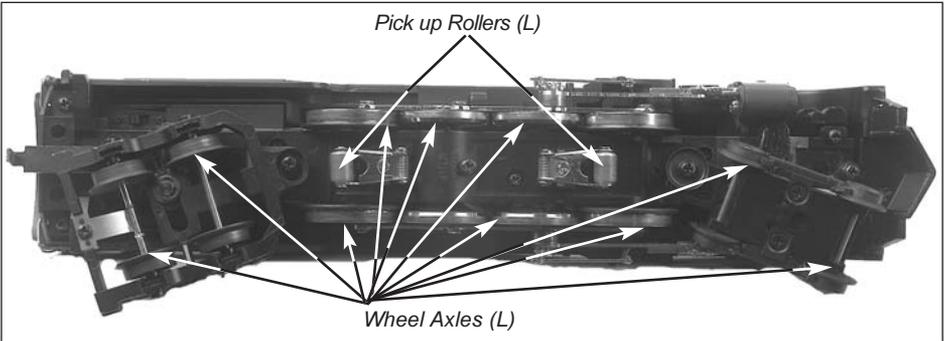

Figure 2 - Lubrication Points on the Engine
- 3.** You should lubricate all side rods and linkage components and pickup rollers to prevent them from squeaking. Use light household oil and follow the lubrication points marked “L” in Fig. 2 on page 9. Do not over oil. Use only a drop or two on each pivot point.
This engine should be oiled and greased in order to run properly. You should regularly lubricate all side rods and linkage components and pick-up rollers to prevent them from squeaking. Use light household oil and follow the lubrication points marked "L" in Figure 2. Do not over oil. Use only a drop or two on each pivot.